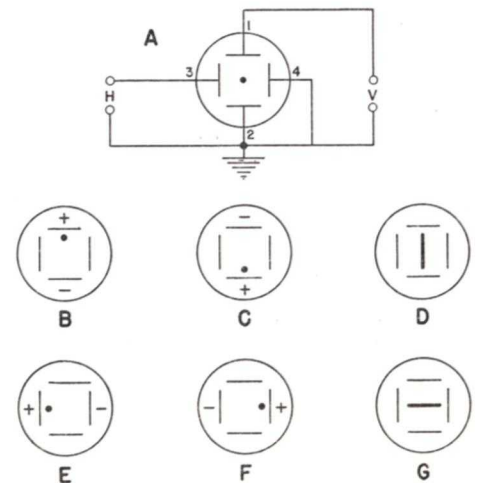

FIG. 4. The result of applying a voltage to just one set of deflecting plates.
► Fig. 4 shows how the position of the spot of light is affected for different deflecting voltages applied to the deflecting plates. At A you see a view of the tube as you would see it when looking right at the screen. (The deflecting plates are indicated on the drawing, although they cannot actually be seen from the front of the tube.) The spot here is in the middle between the vertical deflecting plates 1 and 2 which make up and down motions of the spot, and the horizontal deflecting plates 3 and 4 which cause side-to-side motion. (Notice the plates are named for the direction of deflection, not their physical position.)